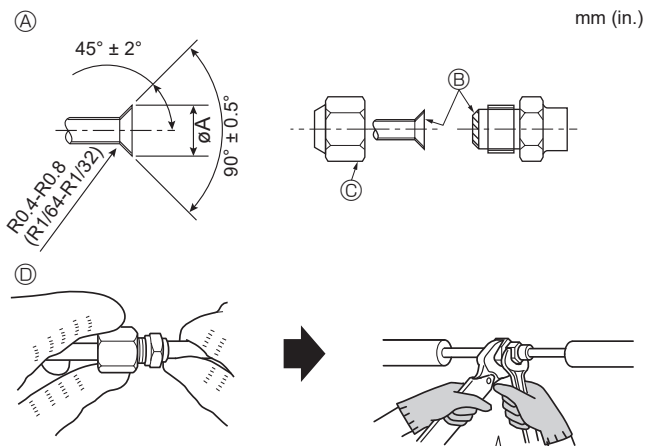

Fig. 5-9
- Apply a thin coat of refrigeration oil on the seat surface of pipe. (Fig. 5-9)
- Flare the ends of the refrigerant pipes. ①
- Apply refrigerating machine oil over the entire flare seat surface. ②
- Use the flare nuts as follows. ③
- Use 2 wrenches to tighten piping connections. ④